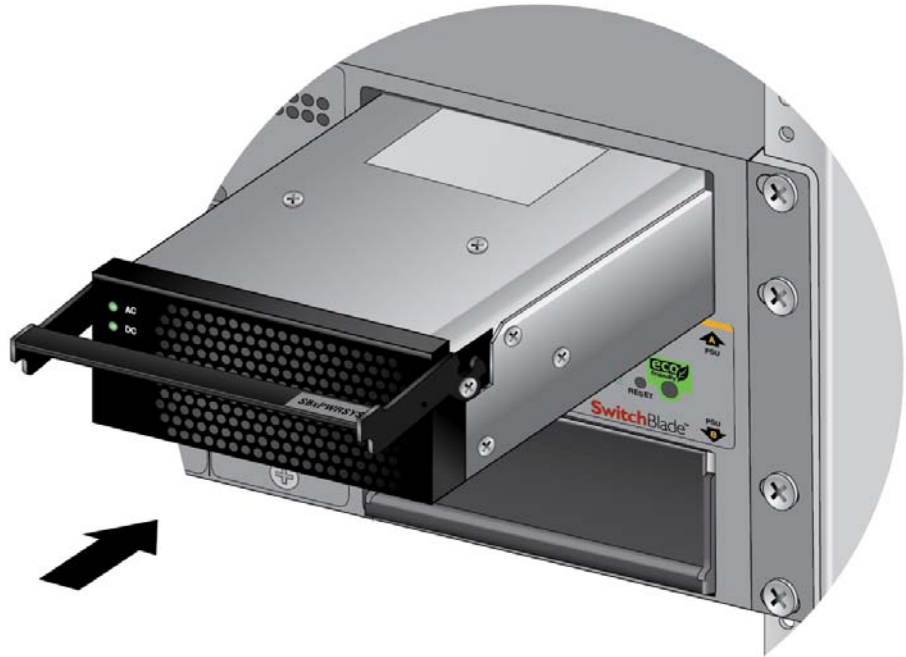

Figure 35. Sliding the SBxPWRSYS2 AC Power Supply into the Chassis
4. Carefully align the power supply in the slot and slide it into the slot until it makes contact with the connector inside the chassis. Refer to Figure 35 on page 73.